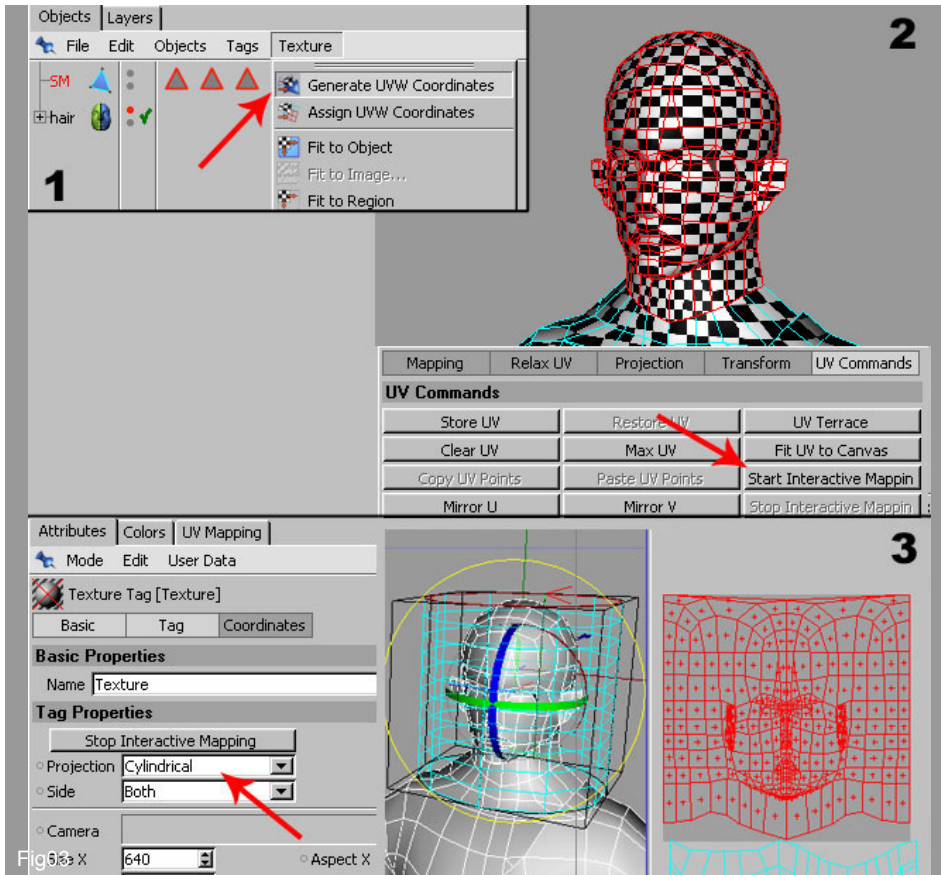

Fig03
3. To correct this we will use the Interactive Mapping that is a procedure to unwrap the mesh by applying different projections on any parts of the object. Switch your interface from Standard to the BP UV Edit and here start the procedure from the head. First select the texture tag and from the object manager menu choose Texture > Generate UVW Coordinates (step 1 - Fig03). The mesh now is editable. Select all the poly's that make up the head and neck area as seen in step 2 - Fig 03. Then in UV Commands click on Start Interactive Mapping button. Choose the Cylindrical projection like shown in the step 3 of figure then click on Stop Interactive Mapping to stop the procedure.